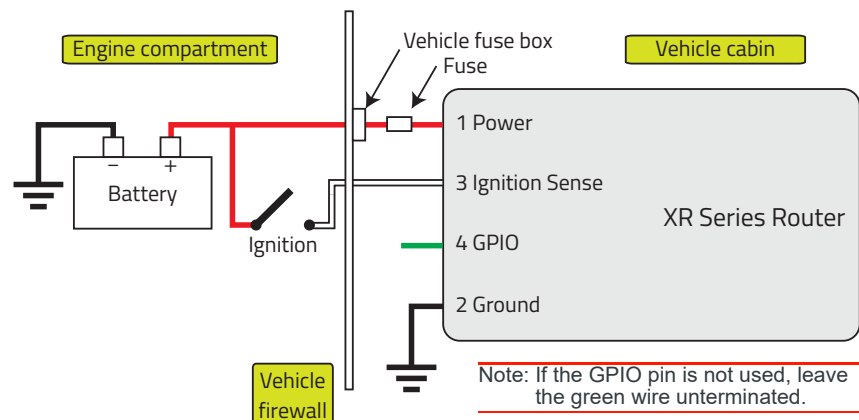

Figure 2-12: Vehicle Installation Wiring Diagram—Recommended Basic Method
6. Use a 15–20 A, fast blow fuse, recommended to have no more than $\pm 10\%$ de-rating over the operating temperature range, to connect the red (Power) wire on the DC power cable to the vehicle's fuse box. (See Figure 2-12.)
For most vehicle installations, Sierra Wireless recommends connecting the white Ignition Sense wire to the vehicle's ignition switch, as shown in Figure 2-12.